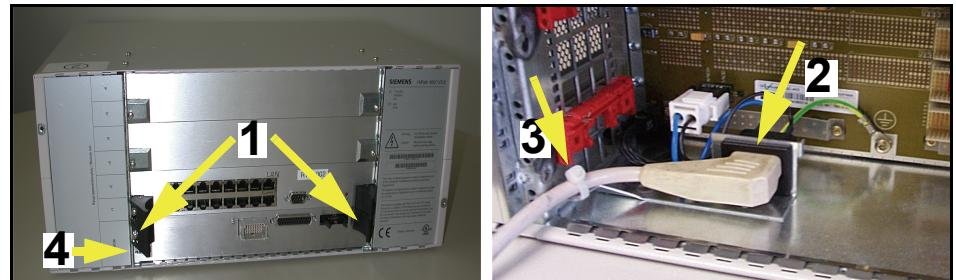

Figure 10 Attaching the power cable to the CSPCI box
1. Remove the fixing screws (1) from the MCM board on the back of the CSPCI box and remove the board (see also Figure 10).
2. Insert the power cable in the socket (2) on the CSPCI box and secure it to the cord grip (3) with a cable tie.
3. Route the power cable through the cable duct (4) on the MCM board and screw the MCM board back onto the CSPCI shelf.